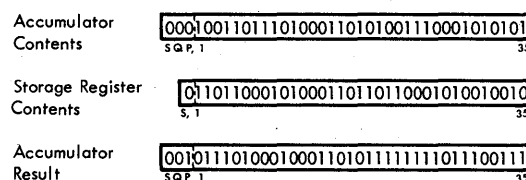

Figure 3. Overflow Condition Resulting from Addition
Registers differ in size, capacity, and use. Some registers contain extra positions to indicate overflow conditions during an arithmetic operation. The accumulator register has 39 positions; 36 for data, two (P and Q) to remember overflow conditions, and one (C) which holds a check bit for that word. If two 36-bit binary numbers are added, the result can be a 37-bit answer. In Figure 3, the accumulator register holds one number; the other number — from storage — is in the storage register. When the two numbers are added, and the result is placed back into the accumulator register, the overflow is indicated by the presence of a 1-bit in the first (P) overflow position. The ac-